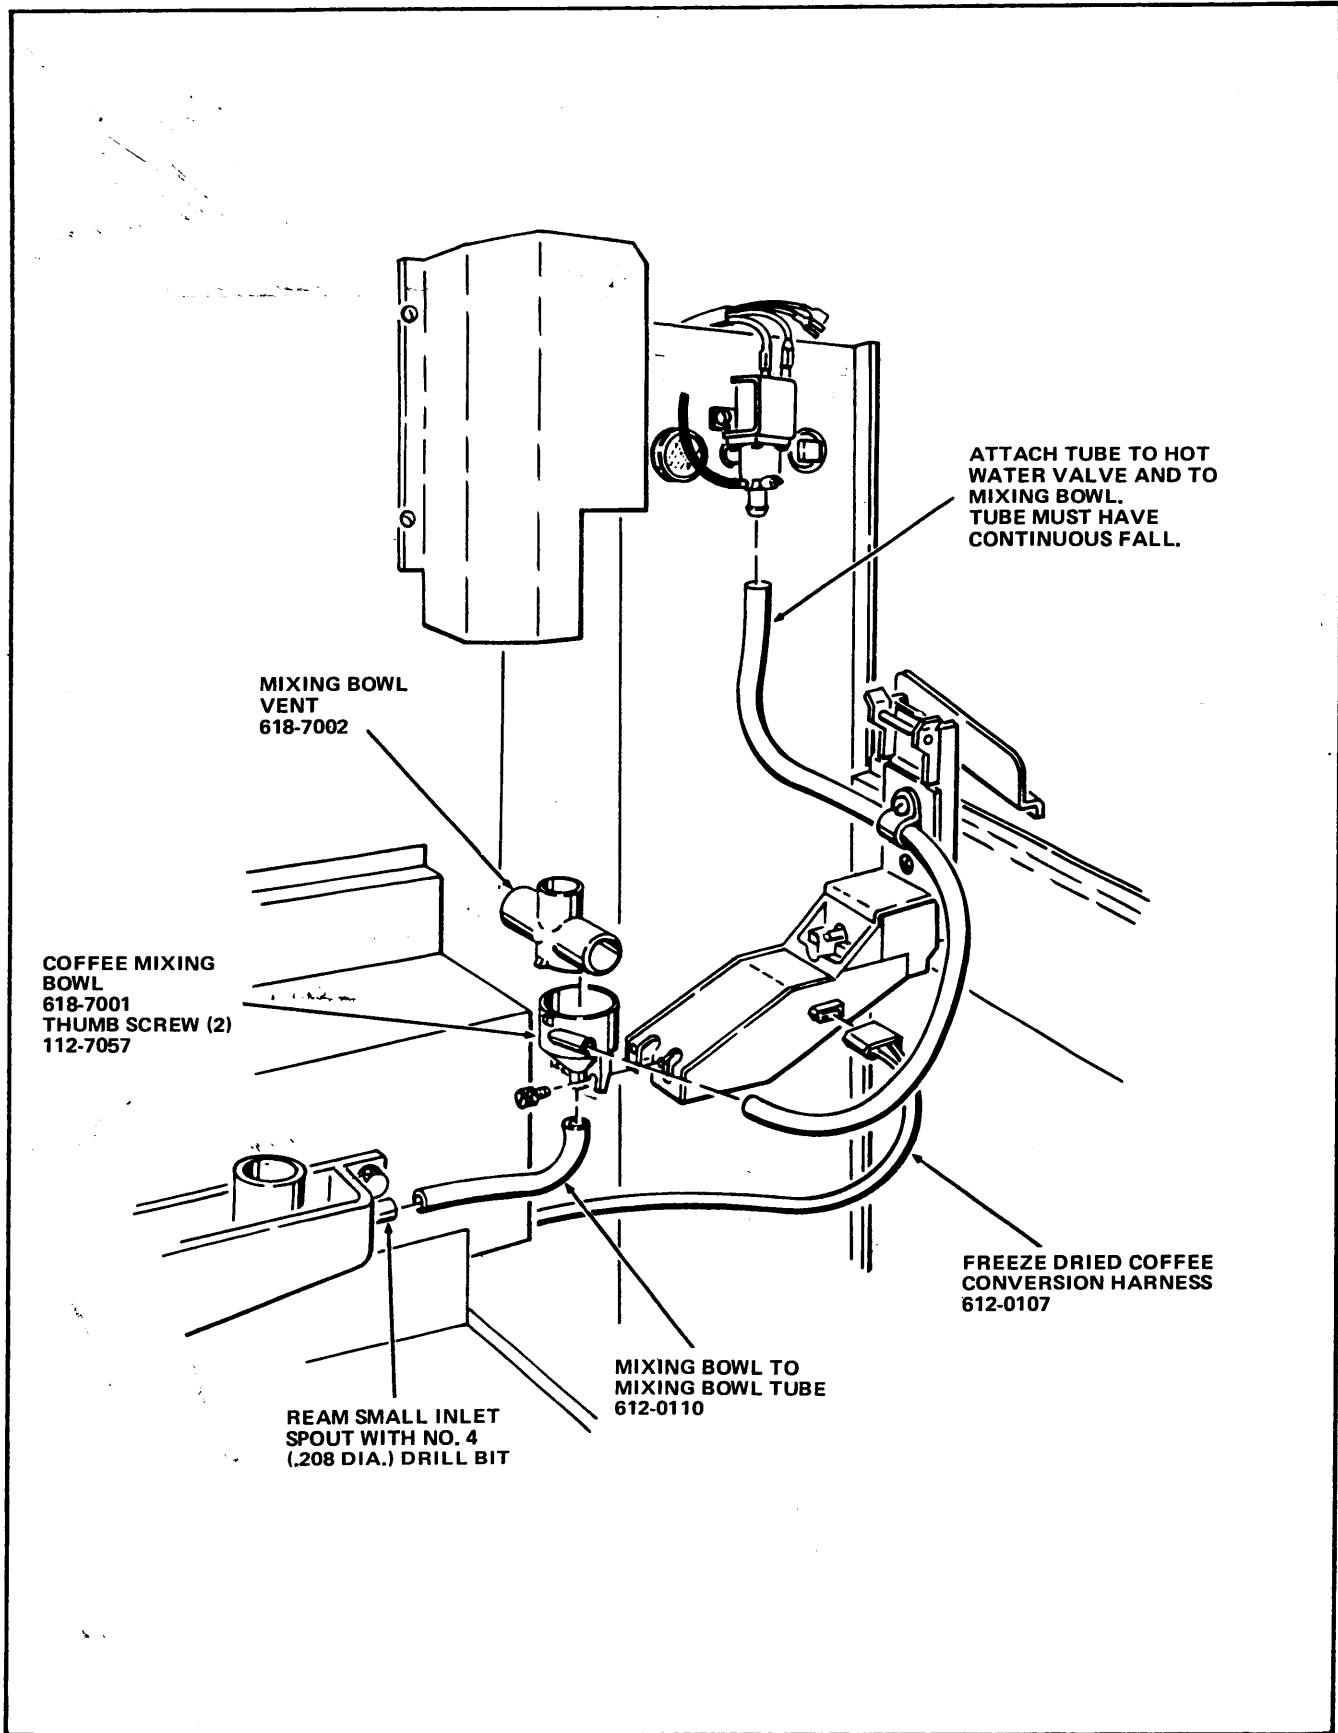

FIGURE 4
14. Connect the Freeze Dried Coffee Conversion Harness, Part Number 612-0107, included in the Kit, to the Coffee Dispenser Assembly. Route wires as shown in Figure 4 and connect the other end of the Harness to the Air Compressor Outlet on the rear of the Control Box. Tie Freeze Dried Coffee Conversion Harness to Main Harness using one Wire Tie, Part Number 404-2121, included in the Kit.
15. Install the Mixing Bowl Vent, Part Number 618-7002, included in the Kit, on top of the Mixing Bowl as shown in Figure 4.